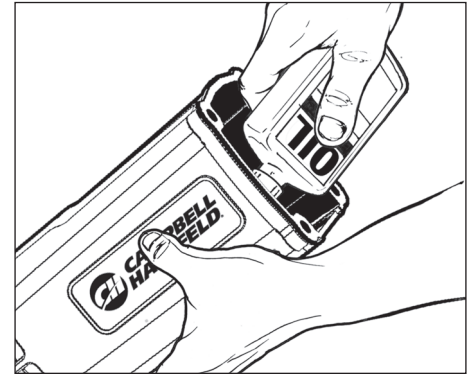

Figure 13
4. With motor assembly tilted up, squeeze 4 or 5 drops of oil into drive cylinder. Rotate the motor assembly while adding 5 or 6 drops of oil onto lower lip of combustion chamber (see Figure 13). Ensure that the oil is evenly distributed around the drive cylinder and lip.